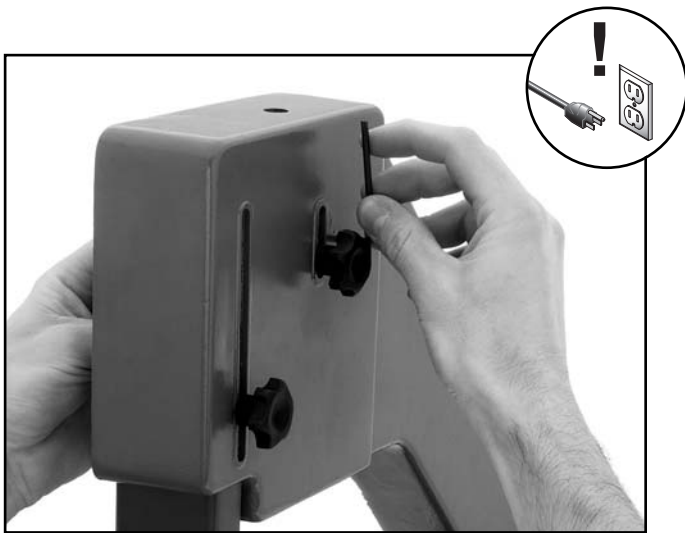

Figure 19. Adjusting the blade tracking.
6. Use a 3mm Allen wrench to adjust the tracking setscrew while spinning the upper wheel. Adjust the tracking setscrew (**Figure 19**) until the blade rides along the center of the bandsaw wheels.